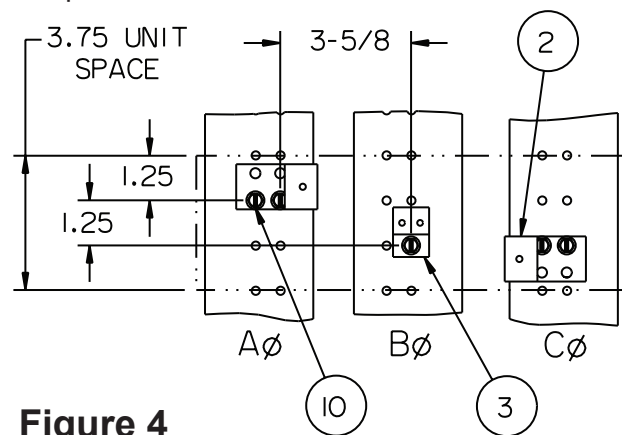

Figure 4
To mount a Type GB Breaker, 3-3/4" of empty unit space is required. To locate the mounting position, measure from the top deadfront support to the top of the empty unit space filler on the deadfront. Transfer this dimension from the deadfront support along the Z-rail and mark. This will be the unit space as shown on Fig. 4. After marking the Z-rail, remove the deadfront.
5. Reference Figure 4: